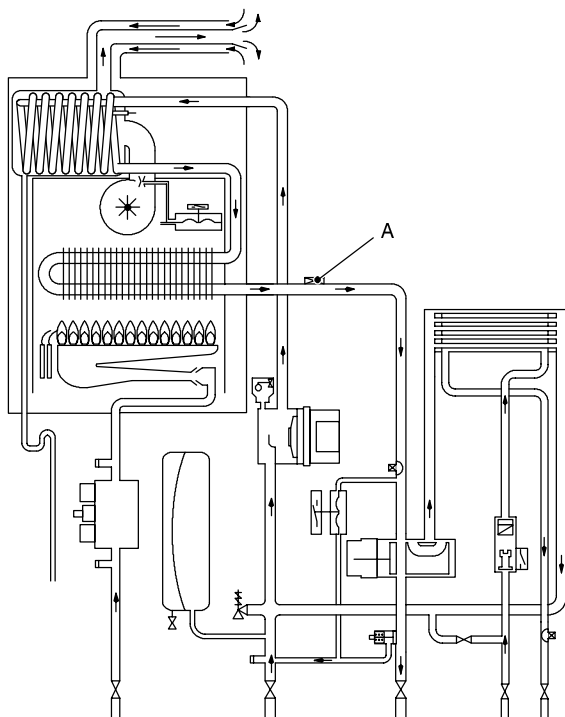
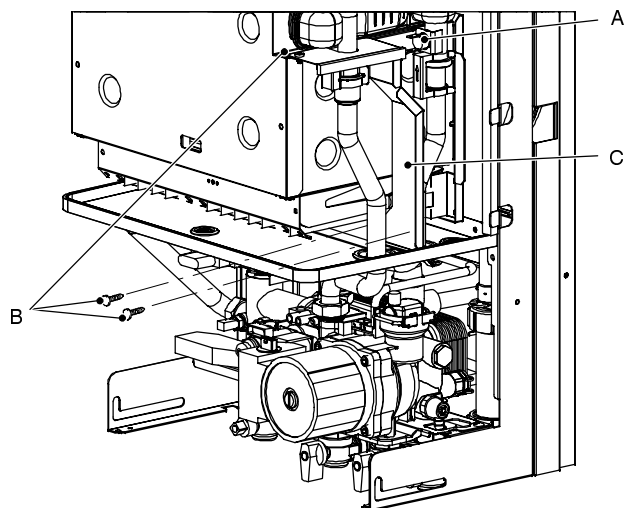

Fig. 83
Fig. 84
- 3 Remove the plate C (see Fig. 84 on page 37).
The safety thermostat *A* in Fig. 83 and Fig. 84 is a device that senses the temperature of the primary circuit water which flows in the outlet pipe of the primary heat exchanger.
- 2 Remove the screws *B* and the plate *C* (Fig. 84).
- 2 Remove the screw *B* and the plate *C* (Fig. 84).